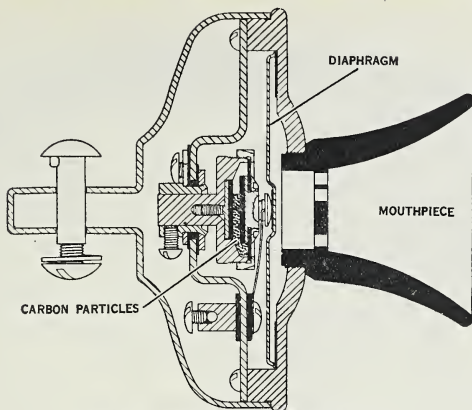
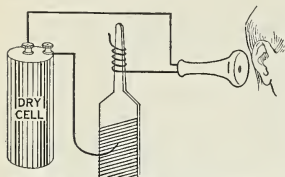

Fig. 304. The telephone transmitter.
Fig. 312. How a telephone receiver works.
The part of the telephone that we talk into is called the *transmitter*. Its secret is a box that is filled with grains of carbon. One wire is connected to the front of this box and another wire to the rear of the box. A metal diaphragm, which catches the sound waves in the air that are spoken into the mouthpiece, is attached to the front of the carbon box (Fig. 304). Air waves or vibrations are set up when we speak so that the air at any point varies in density several times a second. Each compression of the air pushes the carbon particles closer together. This reduces the resistance and makes it easy for the current to flow through the transmitter. As the air becomes less dense, the carbon particles spring back to their original position. This makes it more difficult for an electric current to pass through the carbon box and thus the current is decreased for an instant. Thus when you sing the middle c, 256 pulsations a second are set up in the air. These vibrations cause the disk to vibrate back and forth 256 times a second. This means that the carbon particles are compressed and separated 256 times a second. This causes a current to pulsate 256 times a second to the receiver at the other end of the line.
*How a telephone transmitter works.* Attach wires to two light carbons like the "leads" from pencils or small carbons for arc lights. Lay them on a cigar box and lay a third across them. Lead one wire from a carbon to a telephone receiver. Attach the second wire to a dry cell. Connect the receiver to the dry cell with a third wire somewhat as in Figure 312. Hold the telephone receiver to your ear while you tap the box gently. Then lay a watch on the box. The slight vibration of the carbons makes and breaks the current. This action is similar to that of the carbon button in the transmitter of the telephone (Fig. 304).
handle of a file. Attach a third piece of wire to the remaining pole of the dry cell and leave the other end free. Put the receiver to your ear. Scrape the free end of wire along the file. Electrical contact is made only when the wire touches the ridges. What do you hear? Unscrew the cap of the receiver and examine the electromagnet inside (Fig. 312).